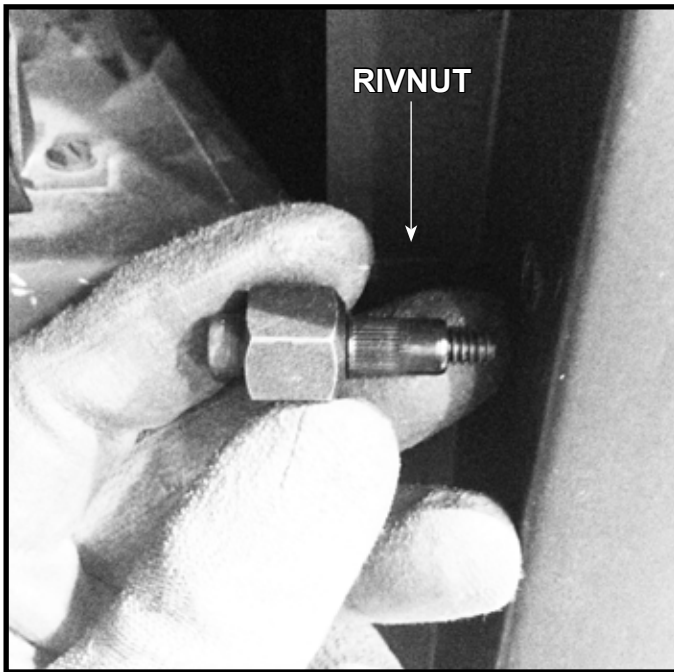

Figure 4. Rivnut Installed on Bushing/Bolt Assembly
5. Test fit the black rivnut into the hole. The fit should be tight; you may need to gently tap on the rivnut to install into the fireplace surround. If attached, remove the silver rivnut from the bushing/bolt assembly and discard. Install a black rivnut onto the bushing/bolt assembly as shown in Figure 4.